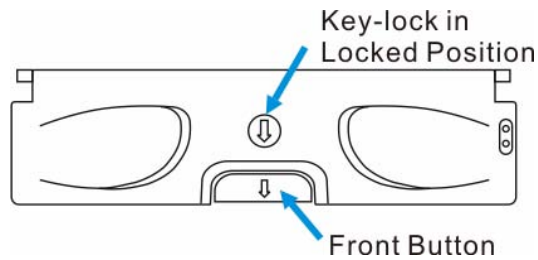

Fig. 6.21 Front View of an Individual Drive Tray
- Open the front flap by pushing the button at the front of the drive tray. (See *Figure 6.21*) The drive tray front flap will automatically be lifted and the drive tray will be dislodged from the chassis.